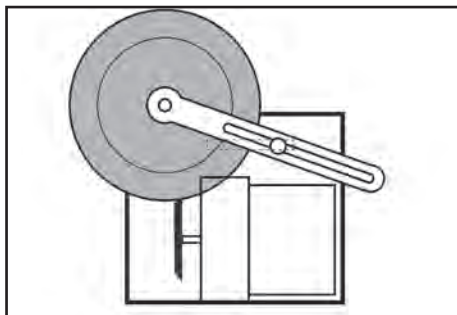

FIG.9
- FIG.9 230mm saw blade, motor must be moved forward in order to avoid any collision with the arm.